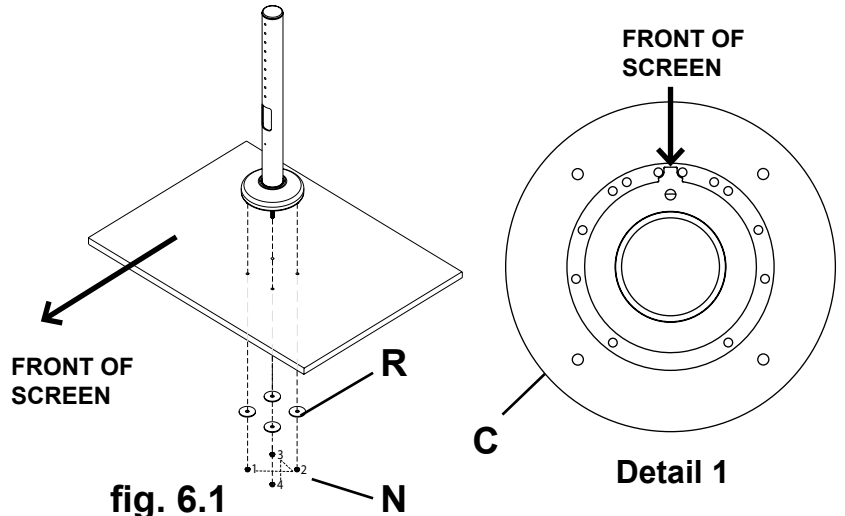

fig. 6.1
- 6** Align base assembly (step 5) with supporting surface and base (C) pattern facing the front as shown in Detail 1. Tighten four fender washers (R) with four lock nuts (N) in the sequenced pattern shown in Figure 6.1 with the 1/4 - 20 locknuts (N) at minimum flush with the bottom of the threaded rods (M).